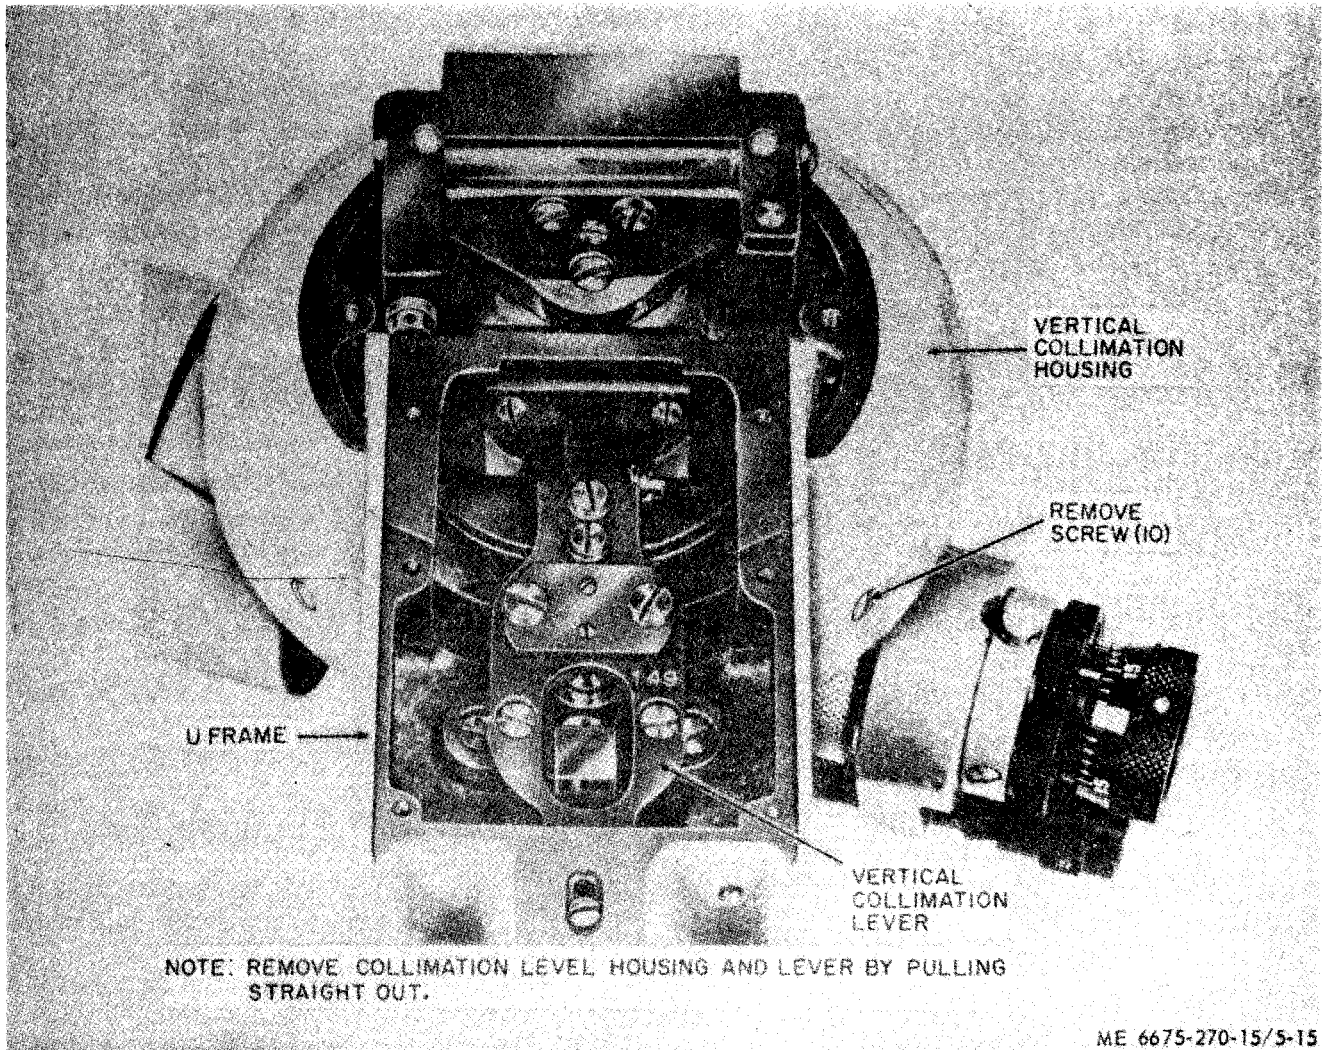

Figure 5-15. Vertical collimation housing and vertical collimation lever assemblies, removal and installation.
(1) Remove the collimation level mirror (para 5-7).
(2) Remove the left-side support cover (para 5-24).
(3) Remove the vertical collimation level assembly (para 5-23).
(4) Remove the collimation slowmotion screw assembly (para 5-27).
(5) Refer to figure 5-15 and remove the vertical collimation housing and vertical collimation lever as an assembly.
(1) Refer to figure 5-15 and install the vertical collimation housing and vertical collimation lever as an assembly.
(2) Install the collimation slowmotion screw (para 5-27).
(3) Install the vertical collimation level assembly (para 5-23).
(4) Install the left-side support cover (para 5-24).
(5) Install the collimation level mirror (para 5-7).